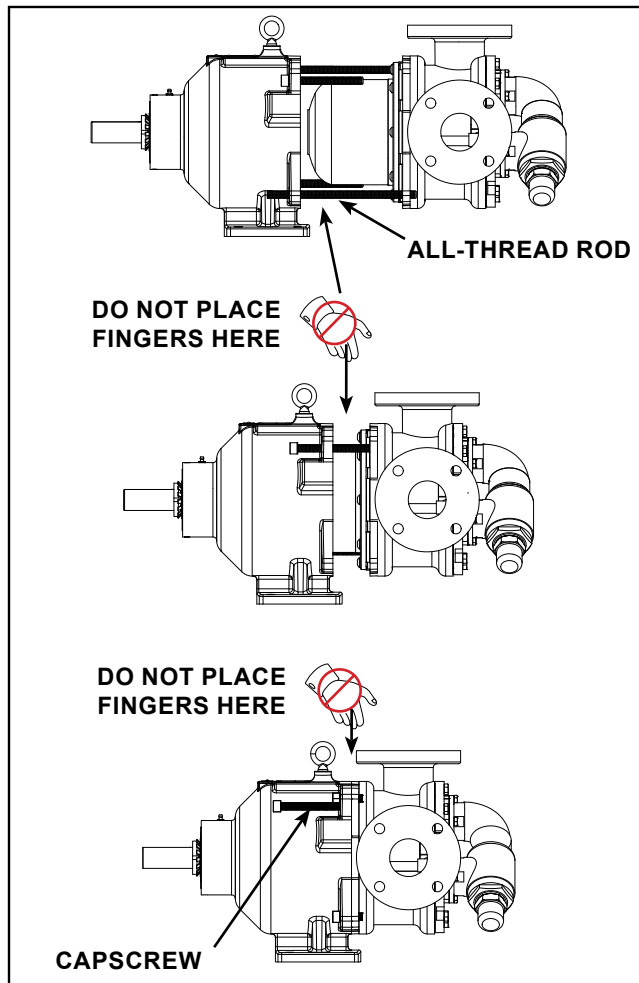

FIGURE 13
Do not place fingers onto the front of pump mounting flange. Align the canister into bore of the bracket and gently slide it in. When the magnets start to engage, the unit will finish engagement on its own very rapidly unless the 1/2" x 5" capscrew is properly used. Make sure fingers are not on the front of the pump. See Sequence in Figure 13.
15. Insert two fully threaded $\frac{1}{2}$ " X 5" socket head capscrews into the bracket until they are fully extended in front of the bracket to control assembling the pump, see **Figure 13**. To keep the pump and bracket assemblies properly aligned and for additional safety, it is recommended to use 2 lengths of all-thread rod (6-8") threaded into diagonal capscrew locations in the adaptor plate and slide through the corresponding holes in the bracket.